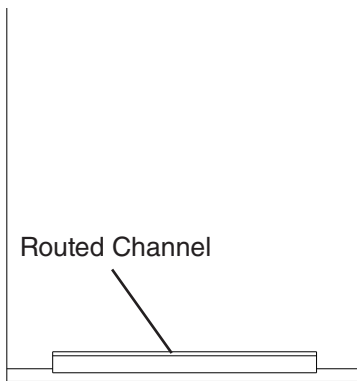

Fig. 8
- 1) Rout a channel at the bottom of the overlay panel to the proper dimensions. See "(C) Routed Area" in the specification diagram and Fig. 8.